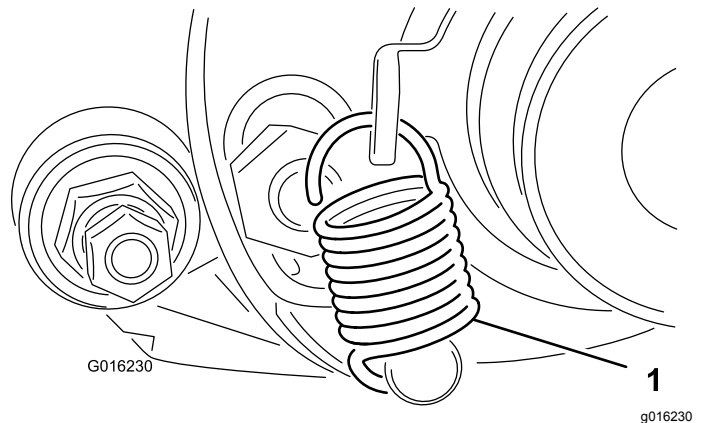

Figure 16
- Rotate the idler pulley until the shift-lever spring can be hooked into the hole in the pulley bracket and onto the stud as shown in Figure 16.